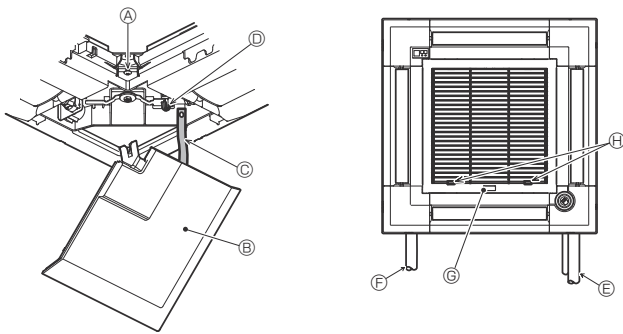

Fig. 9-12
9.5. Installing the intake grille (Fig. 9-12)